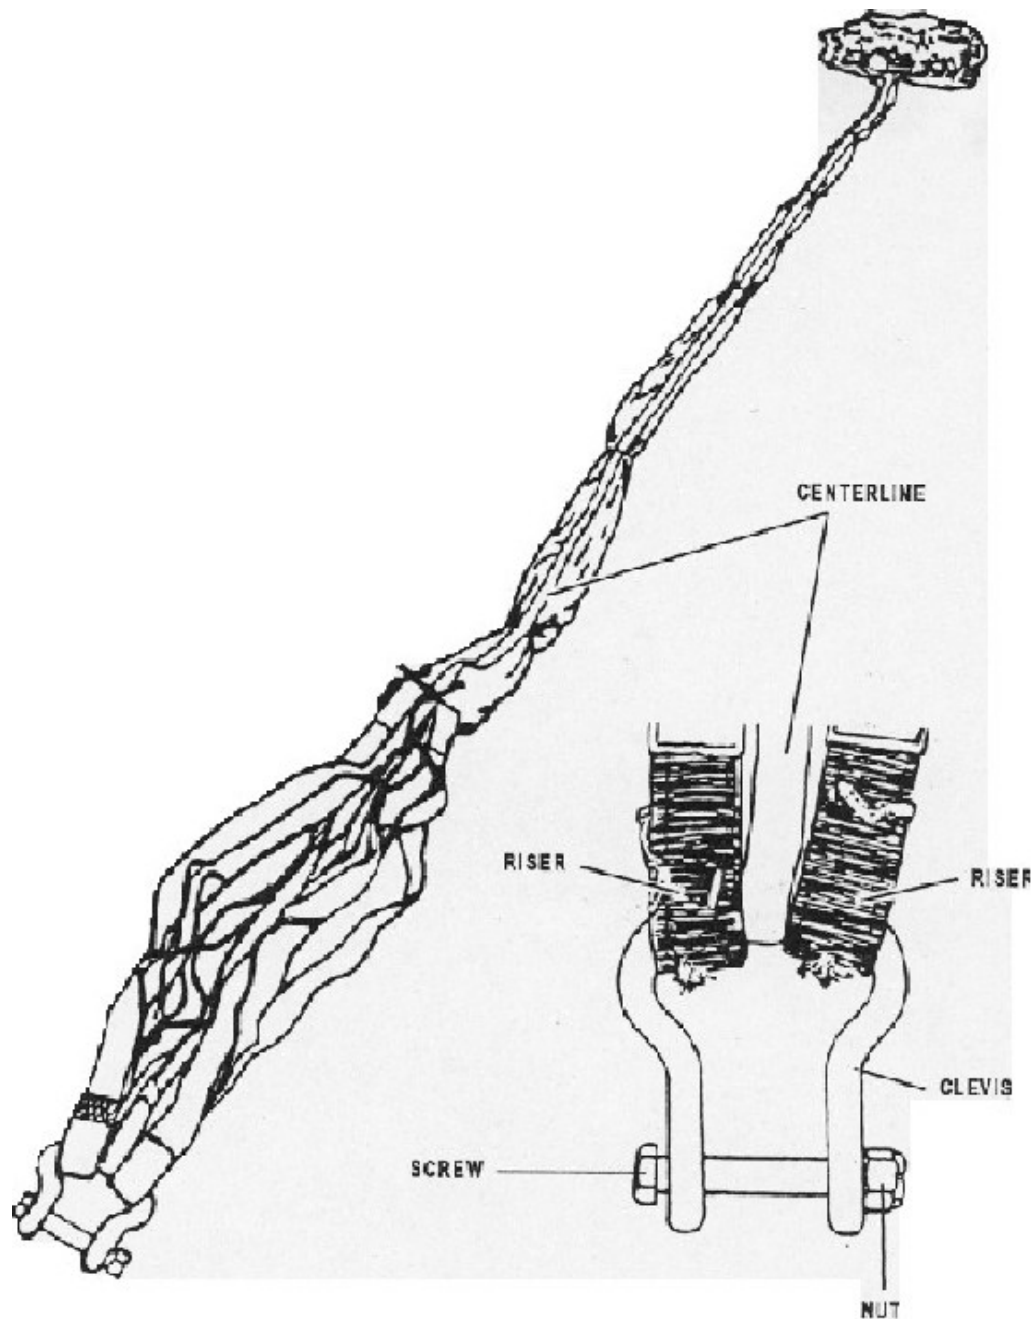

Figure 3-31
- j. Install the centerline running end loop on the suspension clevis. Replace the riser on the clevis, and assemble the screw and nut on the suspension clevis. (See Figure 3-31)